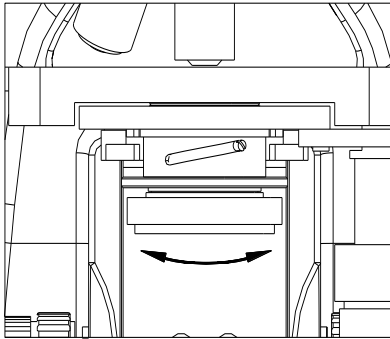

Fig. 16
2. Turn the condenser clockwise or counterclockwise to change the height of the condenser (See Fig. 16).